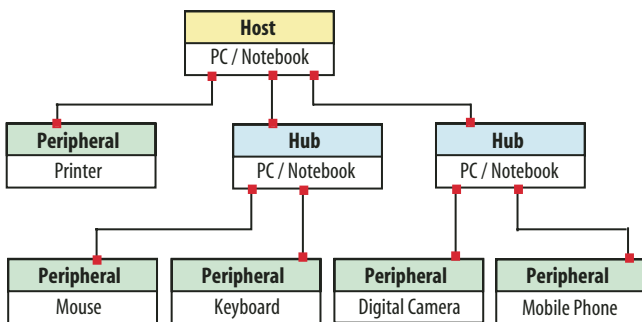

Figure 1. Example of a USB 2.0 Host / Periphery Topology
USB 2.0 traditionally consisted of a host/periphery topology where a PC was the host and the peripheral communicated only through the host device (see Figure 1). USB OTG was introduced to supplement USB 2.0 to allow existing mobile devices to communicate in a point-to-point manner without the traditional host (PC).